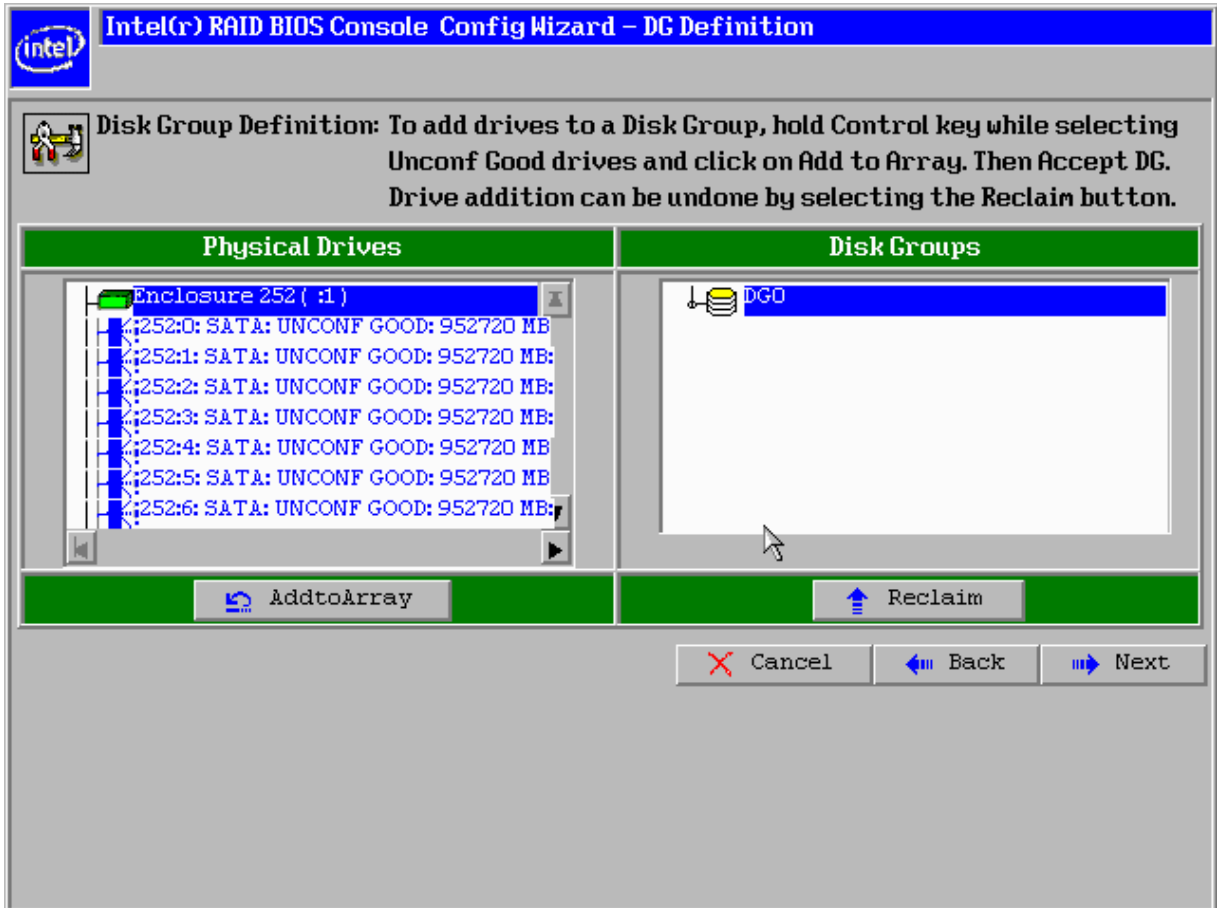

Figure 12. DG Definition Screen
7. On the DG Definition screen (see Figure 12), first select any two hard drives to make RAID 1.